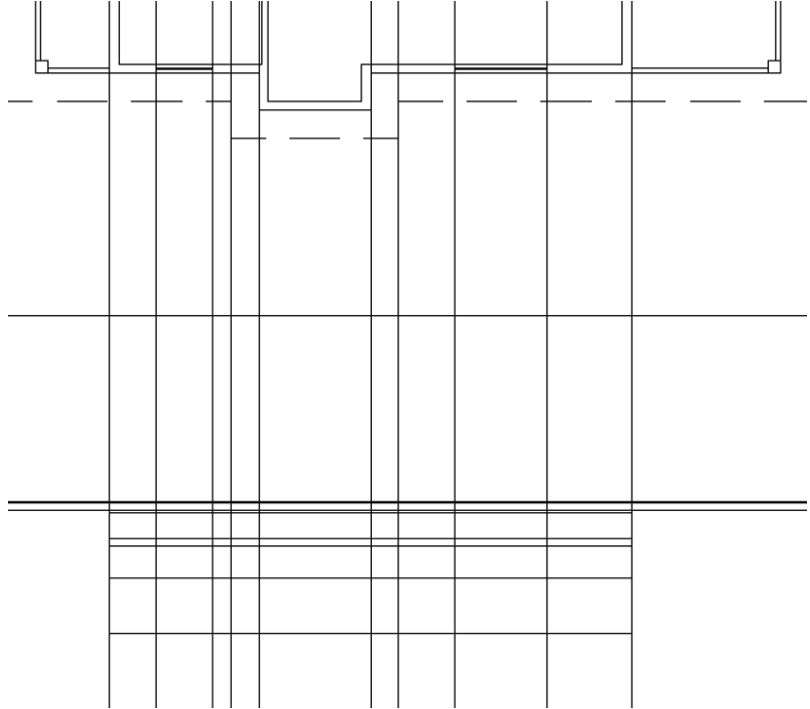

FIGURE 10.10 : The elevation after extending the rooflines
3. Click once on each end of the top four horizontal lines: the ridgeline, the top and bottom of the roof covering, and the bottom of the soffit (see Figure 10.10).